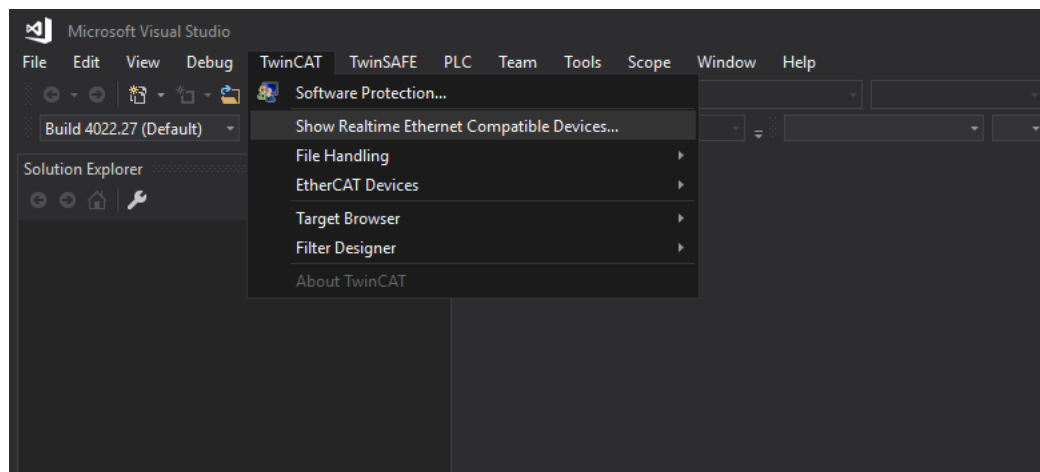

Fig. 6-19 Setting up the interface adapter with TwinCAT 3
- For *TwinCAT 3*, select **TwinCAT > Show Realtime Ethernet Compatible Devices** (Fig. 6-19).